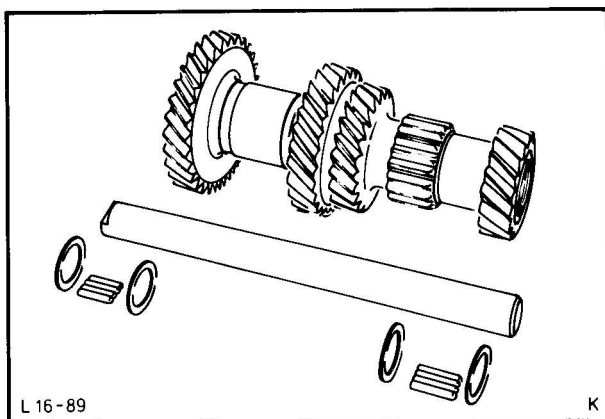

Fig. 90. Countershaft gear train with shaft, spacer shims and needle rollers
33. Reassemble countershaft gear train: insert dummy shaft, fit spacer shim, 22 needle rollers and then another spacer shim, turn countershaft gear train carefully and fit a further 22 needle rollers with a spacer shim on either side, Fig. 90.